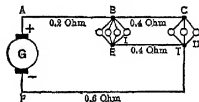

FIG. 73. Note that voltages at lamps are nearly equal due to this unusual arrangement.
**Prob. 19-3.** In Fig. 73, each lamp takes 1.4 ampere.
**Prob. 20-3.** Find the voltage across each lamp of Fig. 73, if the generator voltage is 125 volts, and each lamp takes 1.4 ampere.
**Prob. 21-3.** Find the voltage across the generator and Group I in Fig. 73 if the voltage across Group II is 112 volts and each lamp takes 1.4 ampere.